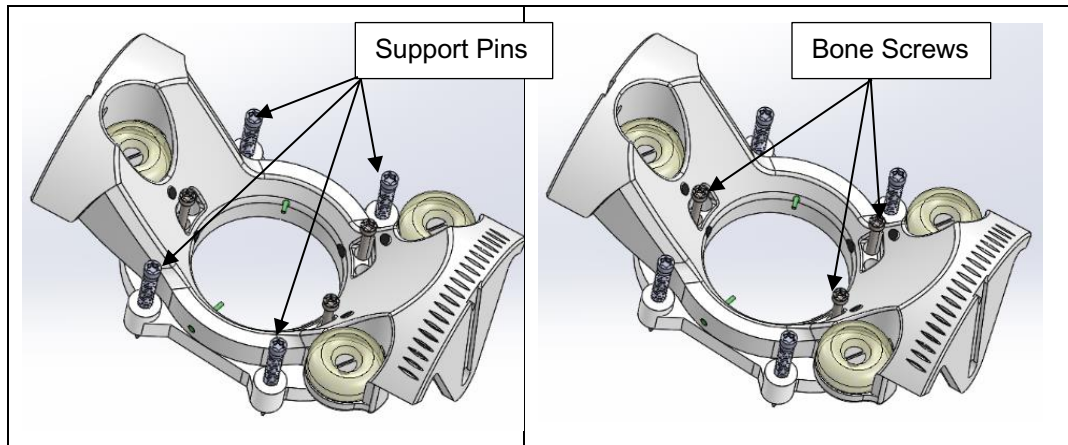

Figure 7: SMARTFrame Array Scalp Mount Base
3. The Scalp Mount Base has four adjustable height support pins and three self-tapping bone screws. See Figure 7.